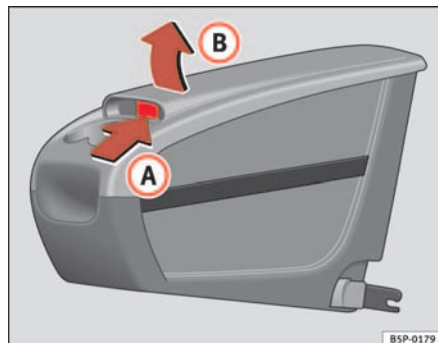

Fig. 112 Mobile stowage compartment Opening
- Lift the cover (B), in area (A) ⇒ fig. 112 .